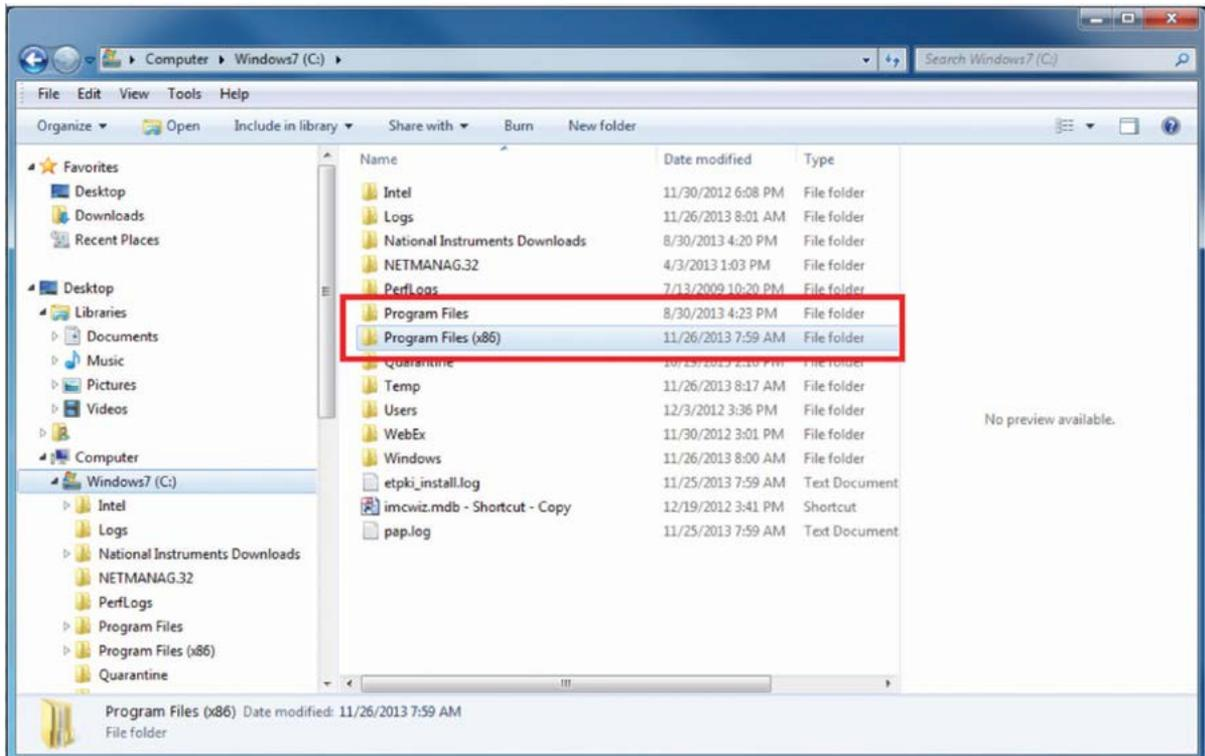

Figure 1: Find "Program Files"
1. Open the C: Drive. Search and open the folder named "Program Files (x86)". If not present, open the folder named "Program Files" as shown in **Figure 1**.